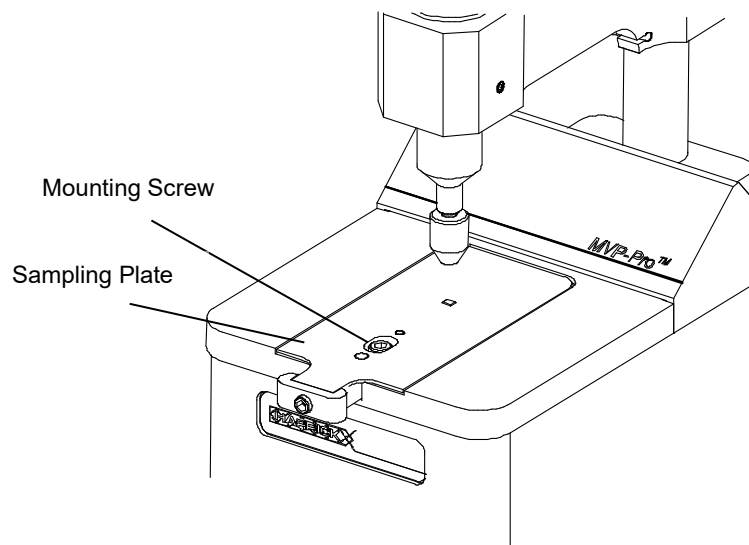

Figure 30 • Replacing the ATR Crystal
- Using the supplied 7/64" ball driver, loosen and remove the mounting screw on the sampling plate to release the sampling plate (Figure 30).